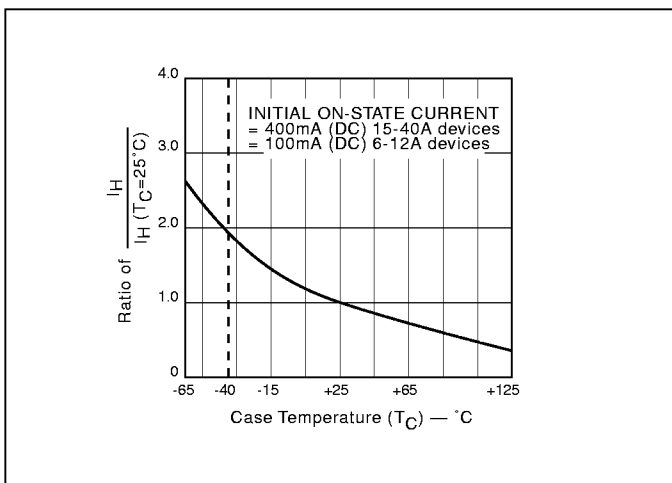

Figure 4.9 Normalized DC Holding Current vs Case Temperature
- (8) See Figure 4.9 for I_H vs T_C .